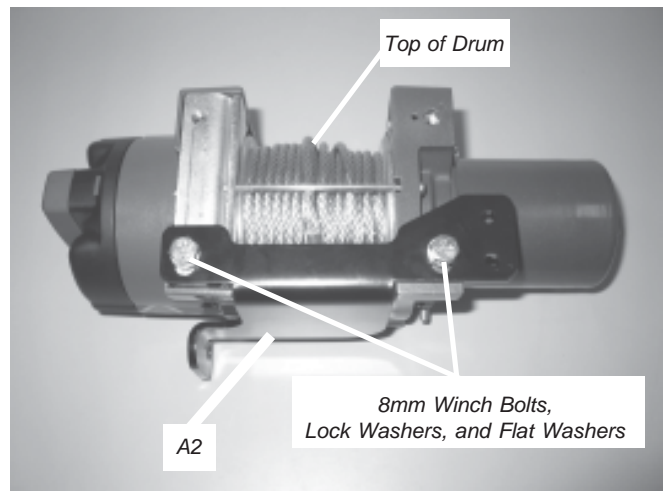

Figure 8 Attach Winch onto Lower Mounting Bracket
8. Attach the winch to the lower mounting bracket (A2), figure 8. Use the two 8mm-1.25 x 20mm bolts and lock washers supplied with the winch, and place a 8mm flat washer (B2) between each lock washer and the lower mounting bracket. Do not tighten the bolts at this time.